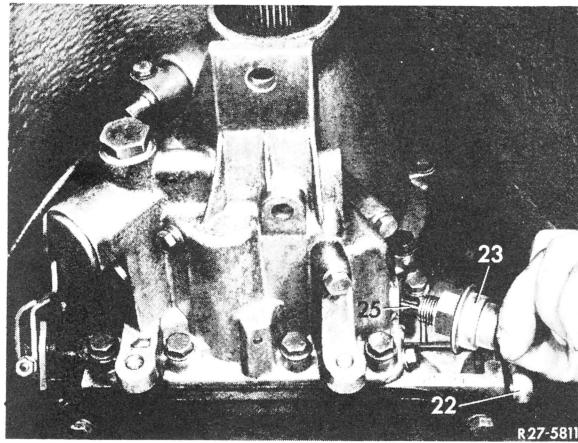

Fig. 4
- 21 Coat vacuum box (23) on threads with sealing compound and screw into rear transmission housing (Fig. 4).